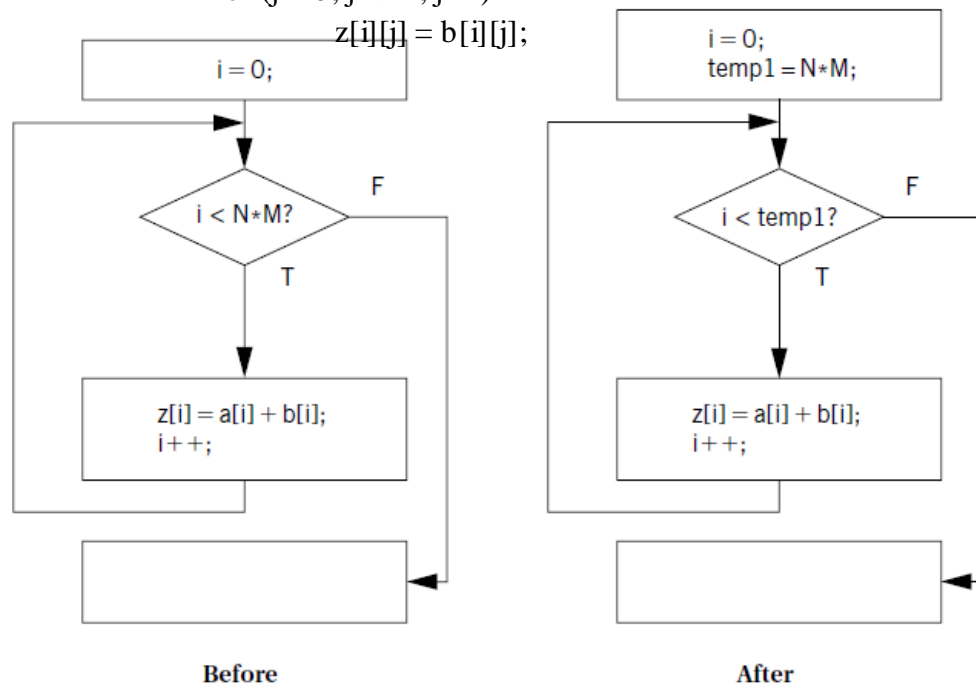

FIGURE 5.23
- The code motion opportunity becomes more obvious when we draw the loop's CDFG as shown in Figure 5.23.